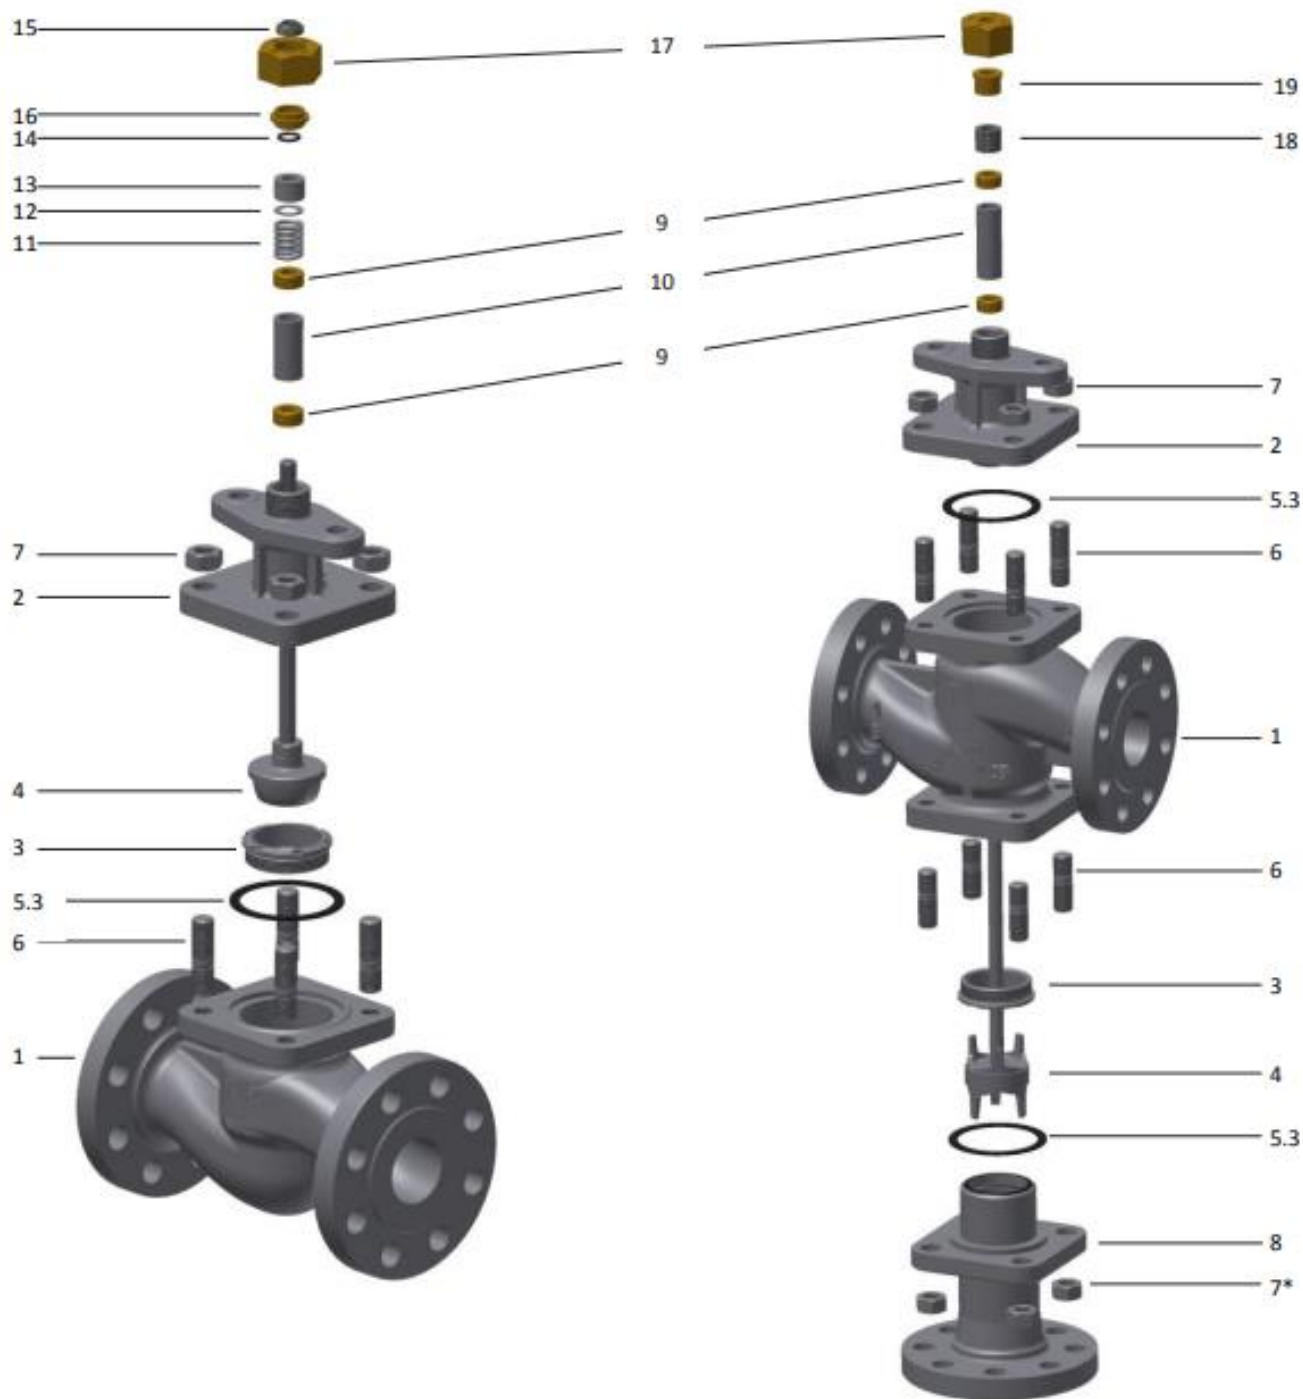
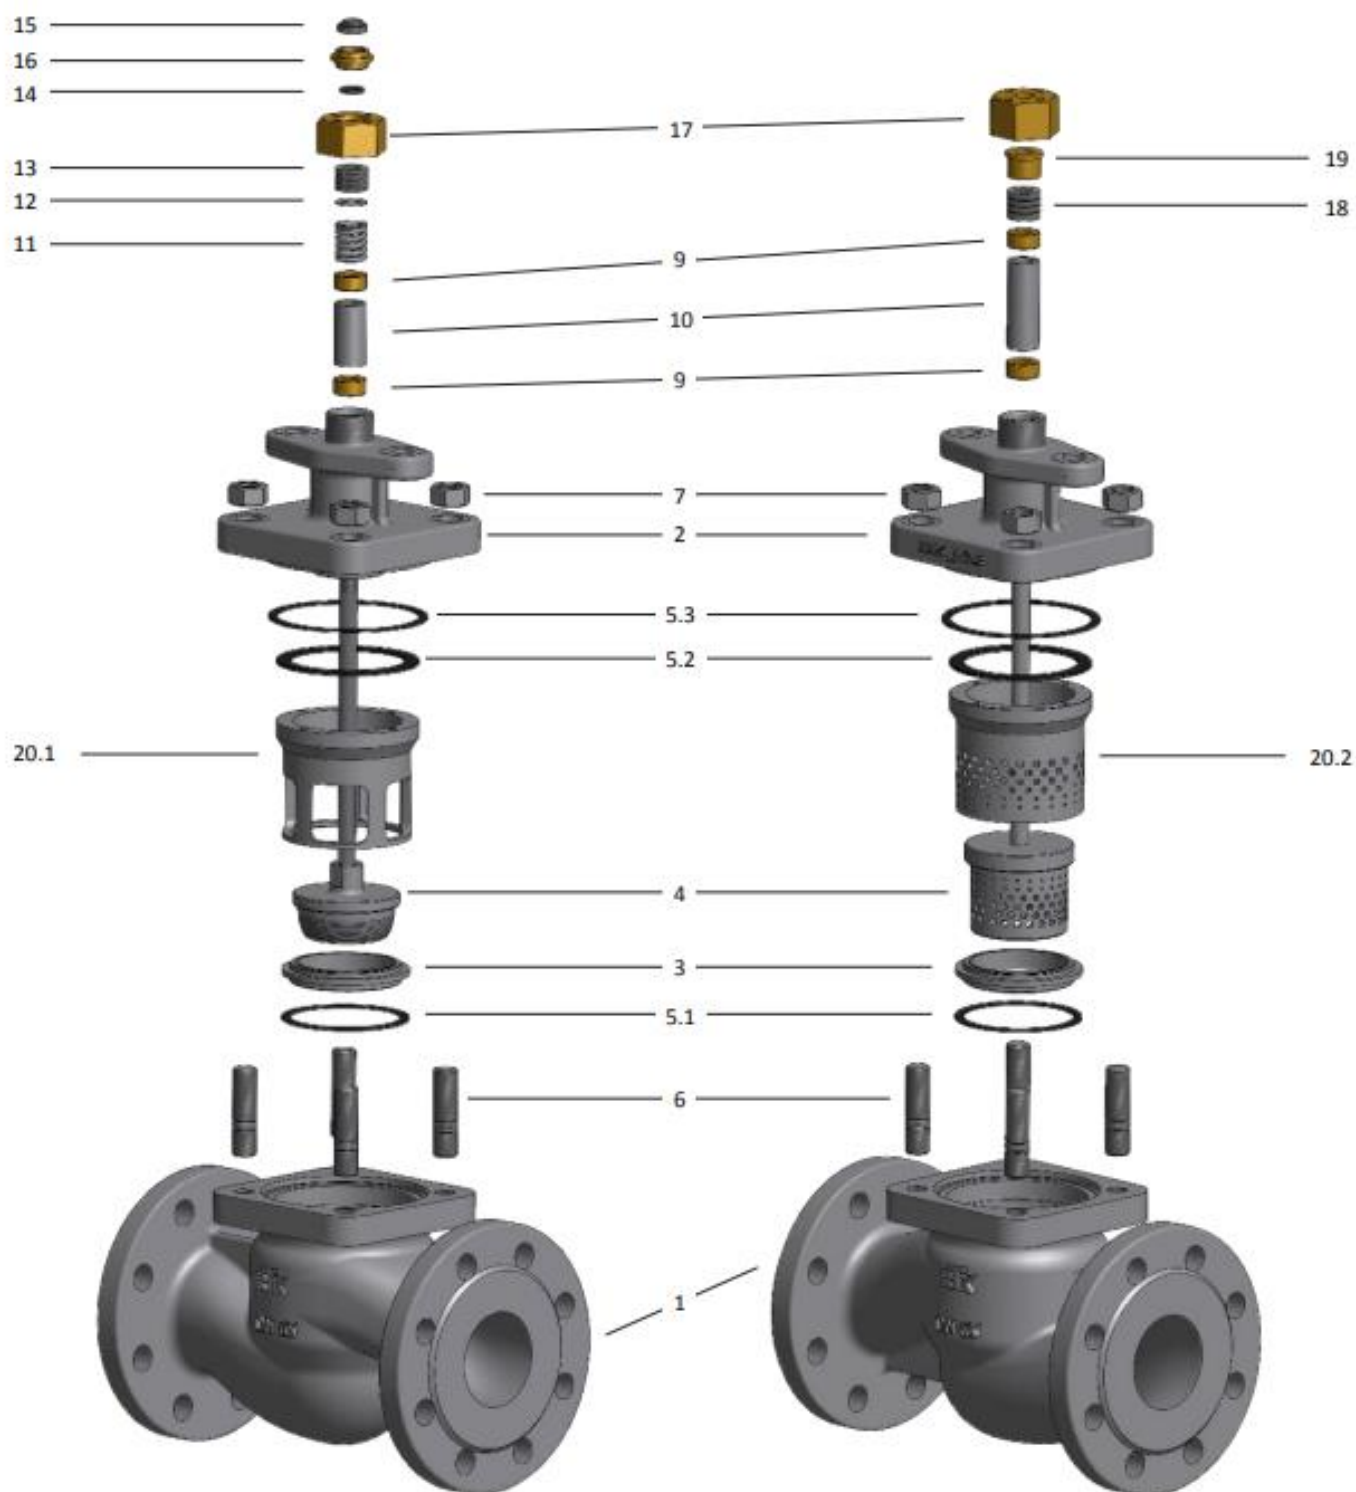

Figure 3: Typical component overview of 2-way (PTFE/Graphite packing) and 3-way (Graphite packing) valve
Figure 4: Typical component overview of QCS 1-stage (PTFE/Graphite packing) and 2-stage (Graphite packing) valve
To disassemble the valve refer to Figure 3, Figure 4, and Table 3 then proceed as follows in the subsections. After all parts have been removed clean them thoroughly with solvent, polish the plug stem with a fine aluminium oxide cloth to remove any foreign particles and/or burrs that may be on the stem. Any worn or damaged parts must be replaced. Be sure all gasket seating areas are clean and smooth.
Remove the bonnet nuts (7) and lift the bonnet (2) straight up until it clears the valve plug stem (4). Being careful not to damage the stud (6) threads and stem thread. Take out the plug (4) and remove the bonnet gasket (5.3) (refer to Figure 3, left).
Remove the bonnet nuts (7) and lift the bonnet (2) straight up until it clears the valve plug stem (4). Being careful not to damage the stud (6) threads and stem thread. Take out the plug (4), remove the bonnet and retainer gasket (5.2 and 5.3). Extract the retainer with the help of the 4 holes on top. Take out the seat ring (3) and the seat ring gasket (5.1) (refer to Figure 4, left).
Remove the bonnet (2) and gasket (5.3) as described in section 7.2.1, then remove the B-flange nuts (7\*) and remove the B-flange (8). Then carefully take out the plug (4) and remove the bonnet gasket (5.3) (refer to Figure 3, right).
Remove the nuts (7), the bonnet (2), the plug (4) and the gasket (5.3) as described in section 7.2.1. The B-flange (8) can be disassembled as described in section 7.2.3 (refer to Figure 3).
Remove Clamping Nut (17) then push out the stem packing components (guide bushing (9), spacer (10), spring (11), washer (12), packing rings (13), O-ring (14), wiper ring (9) and packing follower (23)) from the underside of the bonnet (Item 2 of Figure 3). Keep the spacer (10) in a safe place, this must be re-used **It is not part of the replacement packing set.**
Clean inside of the bonnet and the stem as described in section 7.2. Then insert the plug into the seat and install the bonnet onto the valve body using a new bonnet gasket (Item 5 of Figure 3).